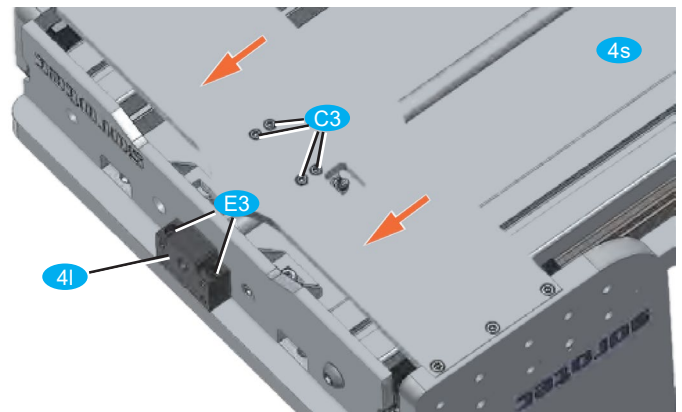

Fig. 14: Tightening the X-spindle screw connections
- Move the gantry forward as far as possible by turning the ball screw **4s** (red arrows in Fig. 14).